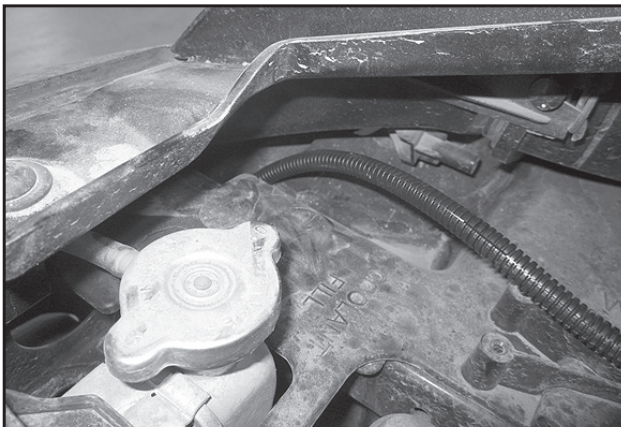

Figure 16
- a. Route the plug of the P/N 2412369 control harness (#3) through the gap between the hood liner and the front bumper fascia on the right hand side as indicated in *figure 16*.